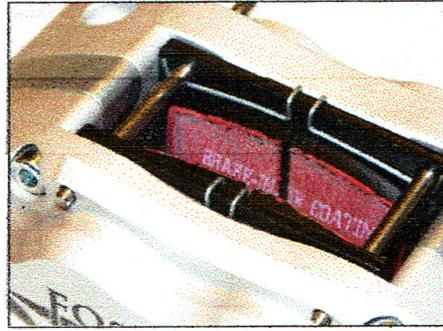

Fig 2.
- Insert the pads into the caliper and place the anti-rattle spring clips over the top of the pads in such a way that their arms will be held down by the pad retaining pins. See Fig 2.